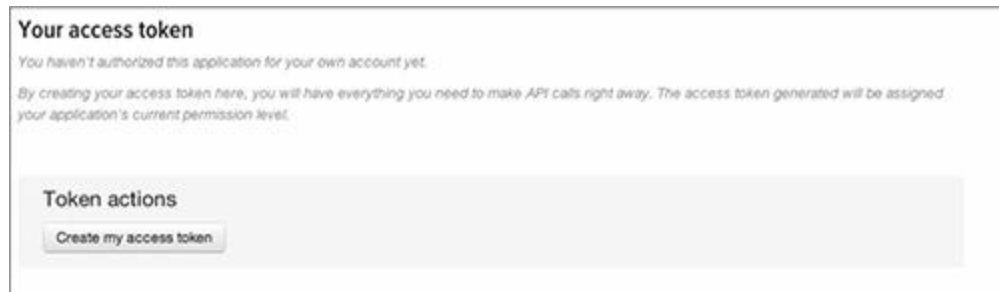

Figure 7-5 Requesting an access token
8. In order to make authorized calls to Twitter's API, the application must obtain an OAuth access token. To do this, in the API Keys section, look for the option at the bottom of the screen to create an access token as shown in Figure 7-5.